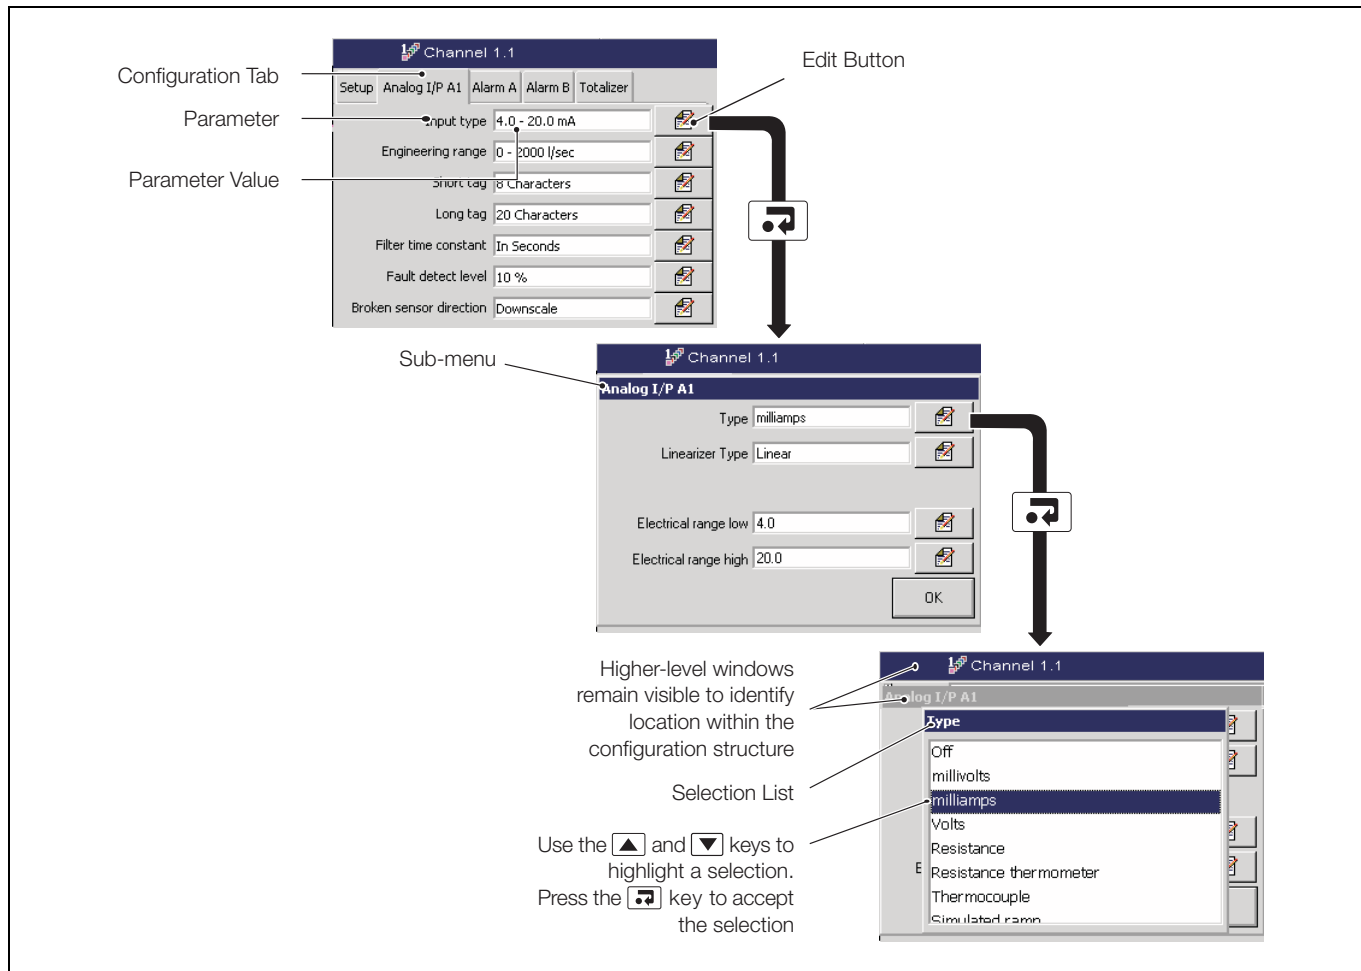

Fig. 4.5 Locating Parameter Settings
4.3 Making Changes to Parameters – Figs. 4.5 to 4.7